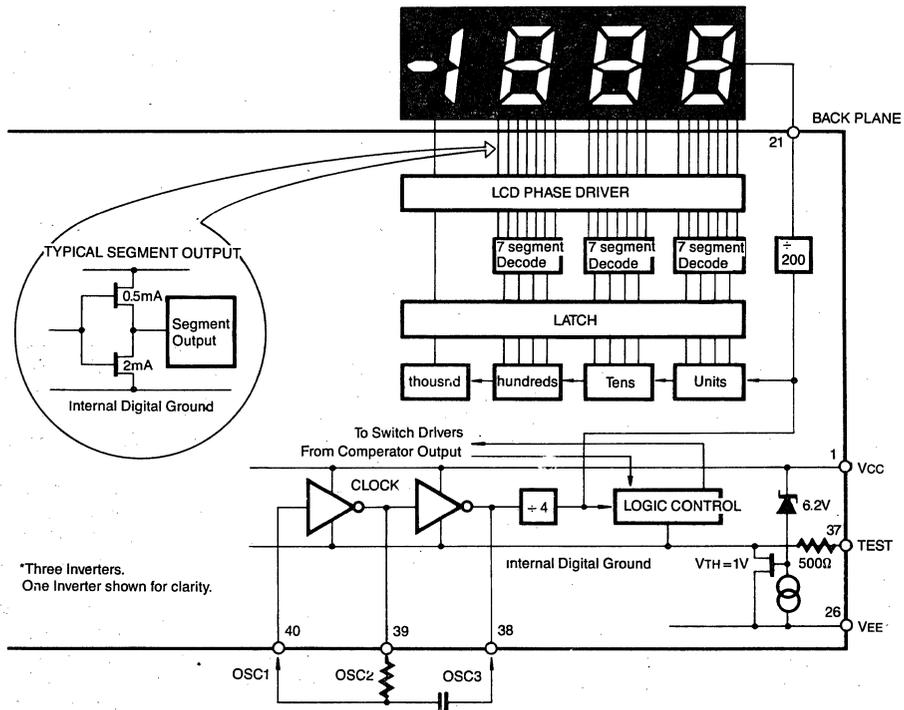

Fig. 7: Digital Section
Fig. 7 shows the digital section for the KS7126. An internal digital ground is generated from a 6 volt zener diode and a large P channel source follower. This supply is made stiff to absorb the relative large capacitive current when the back plane (BP) voltage is switched. The BP frequency is the clock frequency divided by 800. For three readings/second this is a 60Hz square wave with a nominal amplitude of 5 volts. The segments are driven at the same frequency and are in phase with BP when OFF, but out of phase when ON. In all cases negligible DC voltage exists across the segments. The polarity indication is "ON" for negative analog inputs. If IN - and IN + are reversed, this indication can be reversed also, if desired.